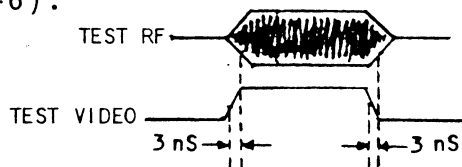

Figure 3-6 TEST RF/TEST VIDEO Waveforms
When connecting the RF Pulse Generator to the RD-301 TEST RF Connector (20), the RF waveform must be delayed 3 nS from the video waveform, measured at the RD-301 front panel (see Figure 3-6).